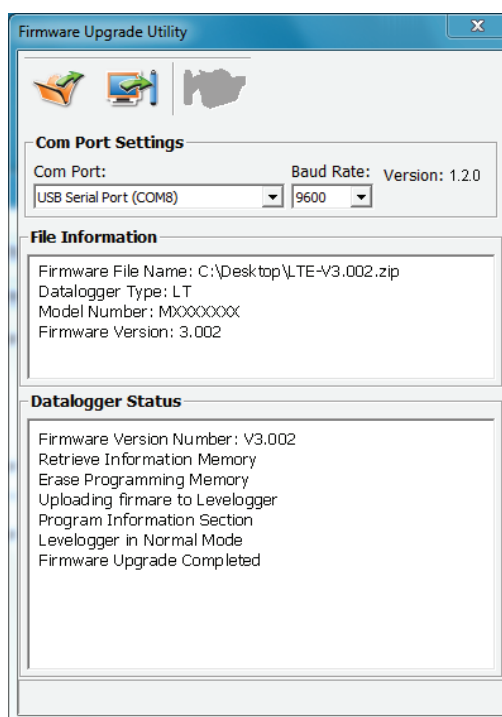

Figure 12-1
- 5) If a communication error occurs and is indicated in the Levellogger Information Window (Figure 12-1) either before the 'Verified Program Checksum' message or after the 'Program Information Section', then restart the upgrade process.